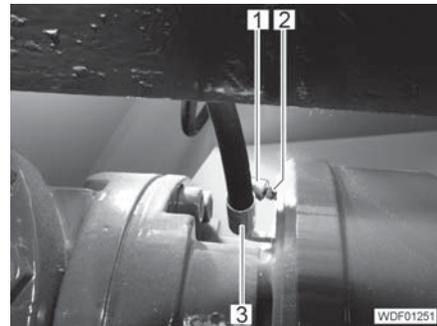

Fig. 248 Hydraulic line of the service brake
- Screw the hydraulic line of the service brake (Fig. 248,3) onto the connection on the brake drum and tighten.